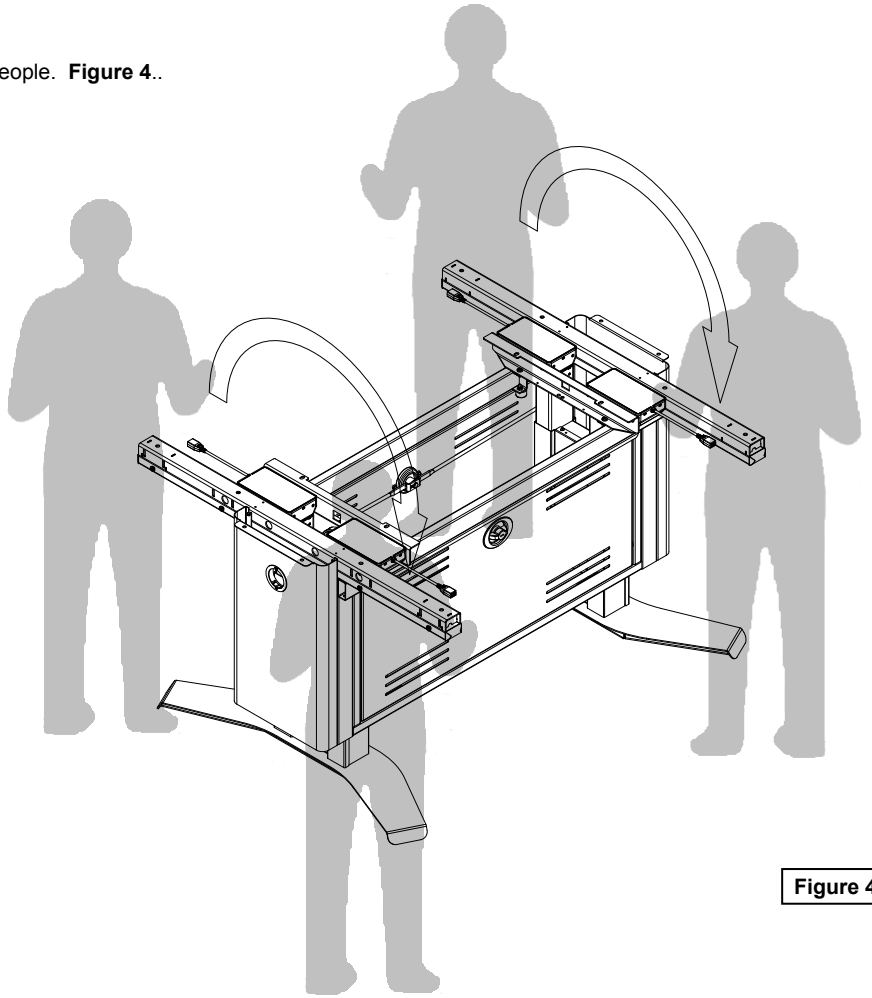

Figure 4
1. Carefully flip the table core upright-this will take 3-4 people. **Figure 4.**